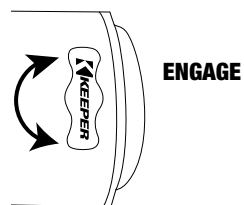

FIGURE 12
- Step 6** Lift and turn the freespool clutch handle to the Disengage position (See FIGURE 12). Pull 5 feet of wire rope off the drum. Return the freespool clutch handle back to Engaged position. Activate the Winch cable in and out by momentarily pressing the handheld pendant switch to check drum rotation direction. The switch is labeled "IN" for winching in and "OUT" for winching out. When released the switch will automatically go to the off position. **IF THIS DOES NOT OCCUR THEN REMOVE THE HAND HELD PLUG FROM THE RECEPTACLE.**
1. Lift and rotate the clutch lever to the "Disengaged" position as shown in **Figure 12**. If there is a load on the wire rope, the clutch lever may not turn easily. **DO NOT FORCE THE CLUTCH LEVER**. Release tension on the wire rope by joggling out some of the wire rope, then try releasing the clutch.
3. Check that there are at least five (5) wraps of wire rope left on the drum.
4. Re-engage the drum by lift and rotating the clutch lever to the "Engaged" position, apply power to engage clutch (**see Figure 12**).